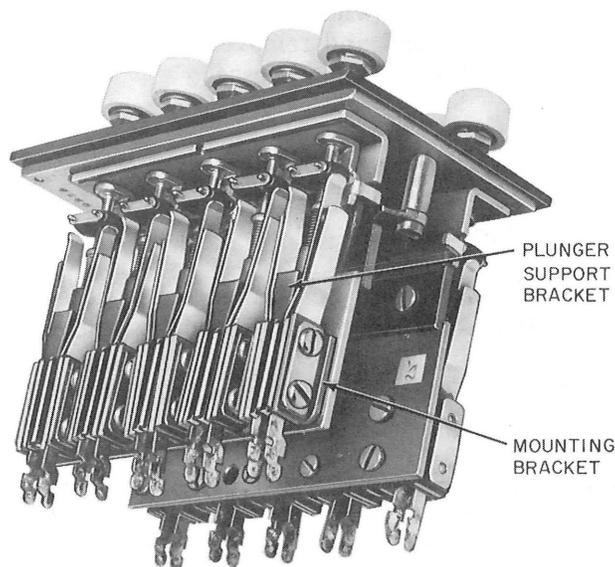

Fig. 1—▶New Plunger Rod Support Assembly◀
- Add a new Fig. 1 which illustrates an improved support for the plunger rod assembly used on the 545-, 575-, 591-, A28-, A34-, A36-, B23-, B26-, and G3-type keys.
1.07 ▶ An improved support for the plunger rod assembly is illustrated in Fig. 1. ◀